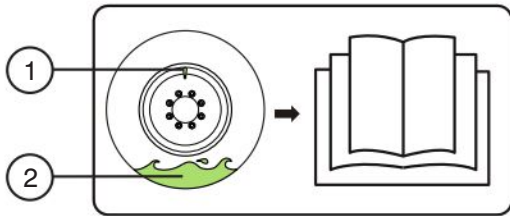

Figure 3-3. Tire Sealant Label
- **When depressurizing, inflating or checking tire pressure, ensure that the valve stem is at the top to prevent sealant from entering the stem (refer to Figure 3-3).**